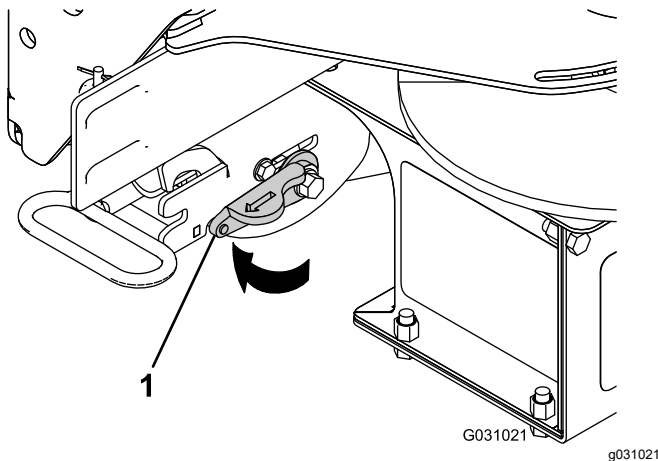

Figure 24
5. Rotate the locking lever on the RT3 attachment to the UNLOCK position (Figure 24).